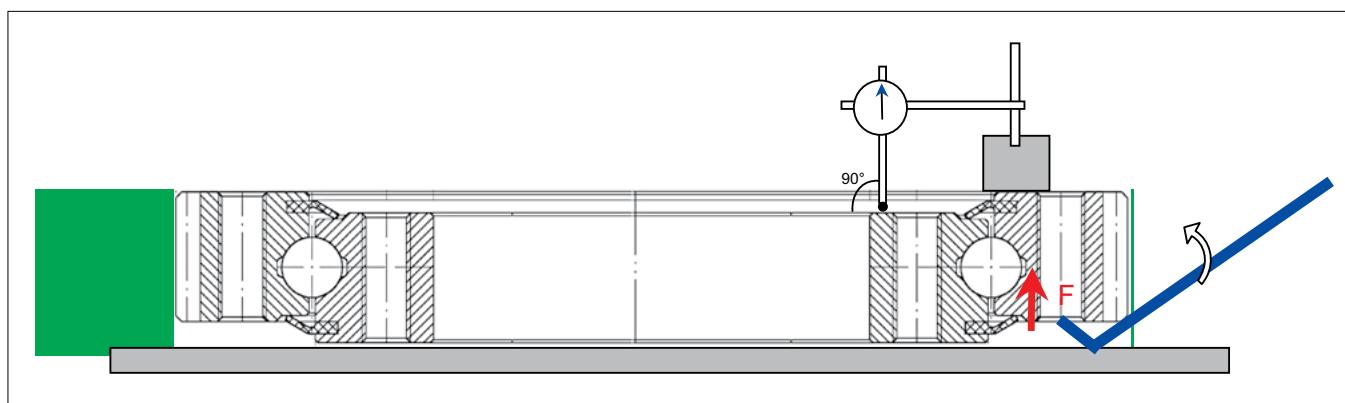

Fig. 2
- 4.2.1 Place the magnetic base of the dial gauge on the fixed ring of the bearing and place the feeler pin in the contact with the flat face. Pay attention that the feeler pin is perpendicular to contact surface (See fig.2)